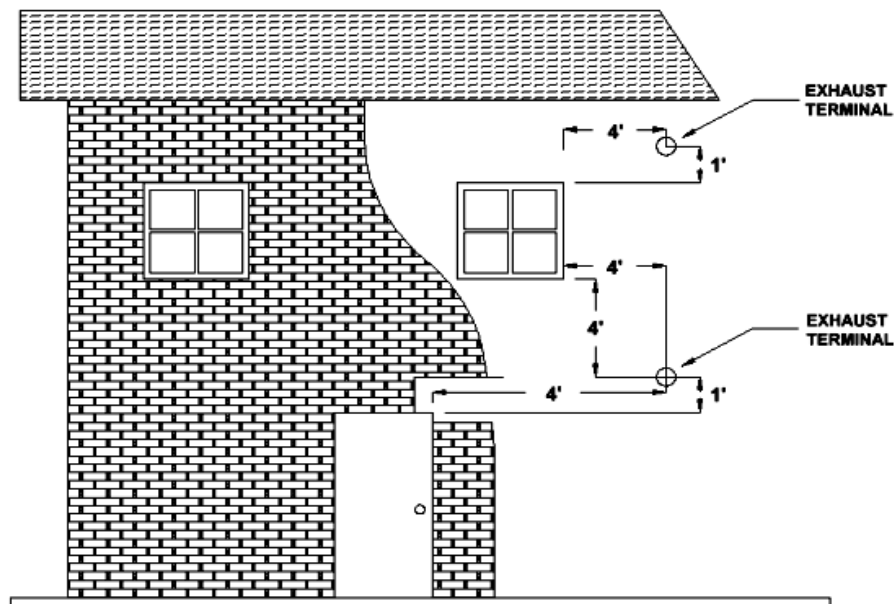

Figure 4a
The type of installation must first be considered before determining the exact location of the venting termination in relation ship to doors, window, cavities or air vents. See figures 4a and 4b below.
- a. **Without** Outside Air connected to the unit. For These types of installations please refer to the dimensions listed below in figure 4a.